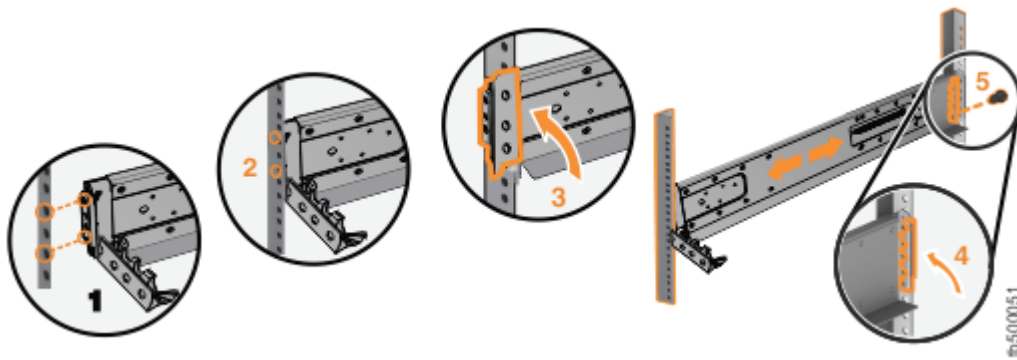

Figure 20. Closing the hinge brackets
- Align the holes in the rail bracket with the holes on the front and rear rack cabinet flanges. Ensure that the rails are aligned on the inside of the rack cabinet. See steps 1 through 3 in Figure 20 on page 31.
- Close the rear hinge bracket to secure the rail to the rack cabinet flange (step 4 in Figure 20 on page 31).
9. Secure the rear bracket to the rail with a black M5 screw (step 5 in Figure 20 on page 31).
Figure 20 on page 31 shows an example.